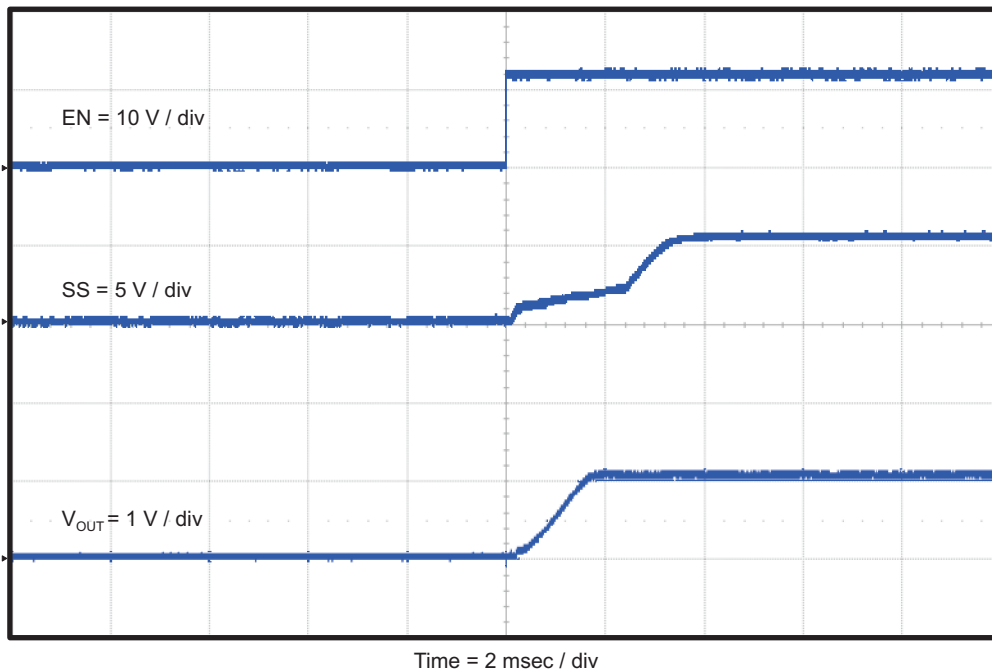
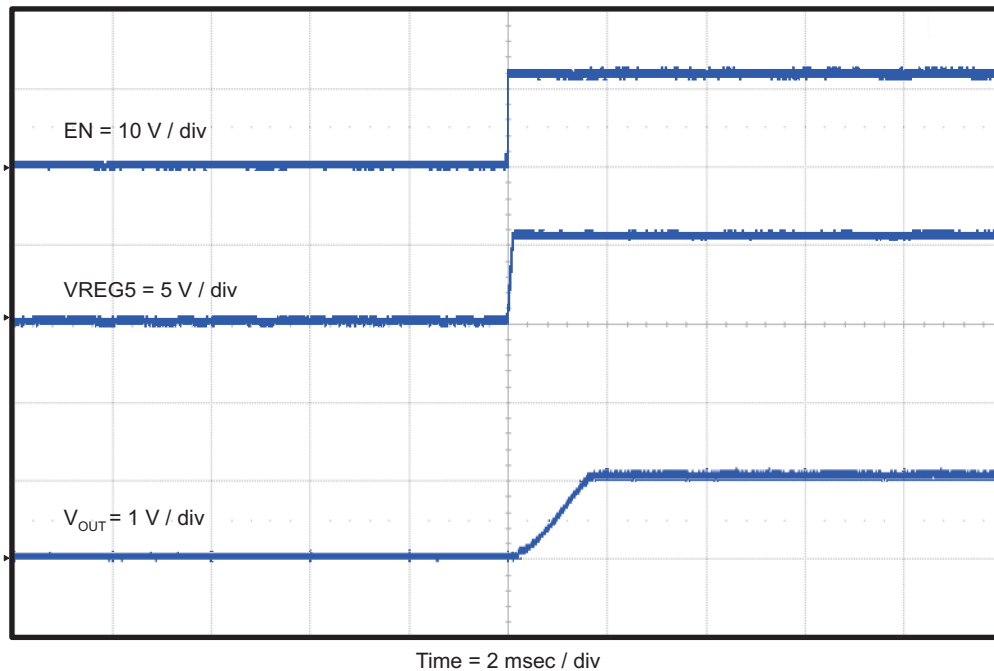

Figure 10. TPS54329EVM-056 Start-Up Relative to EN With SS
Figure 11. TPS54329EVM-056 Start-Up Relative to EN With VREG5
The TPS54329EVM-056 start-up waveforms relative to enable (EN) are shown in Figure 10 and Figure 11.